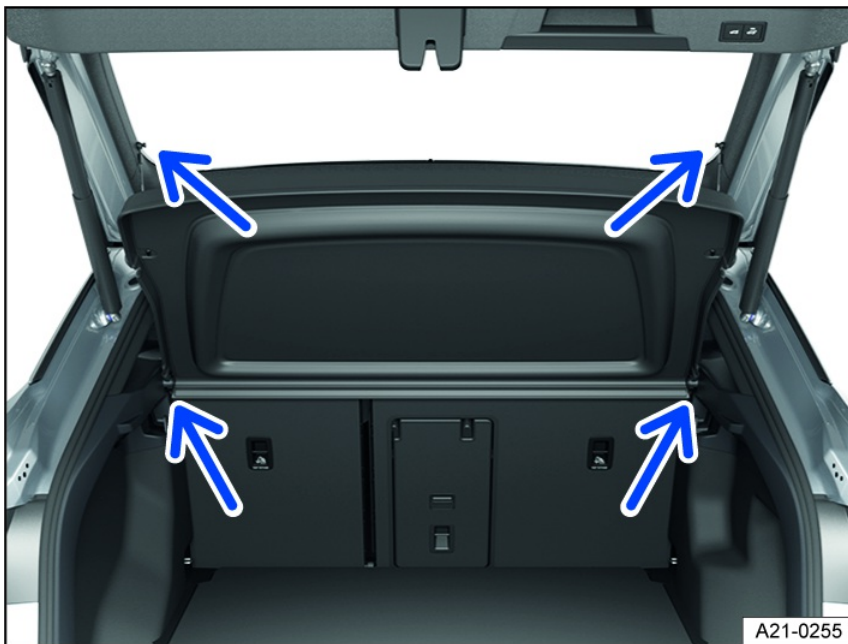

Fig. 115 In the luggage compartment: Installing and removing the luggage compartment cover.
1. Unhook the top retaining straps from the trunk lid *fig. 115* (upper arrows).
3. Press the luggage compartment cover out of the lateral brackets in the luggage compartment *fig. 115* (lower arrows).
1. Press the luggage compartment cover into the side holders in the luggage compartment *fig. 115* (lower arrows).
2. Hook the retaining straps onto the trunk lid *fig. 115* (upper arrows).